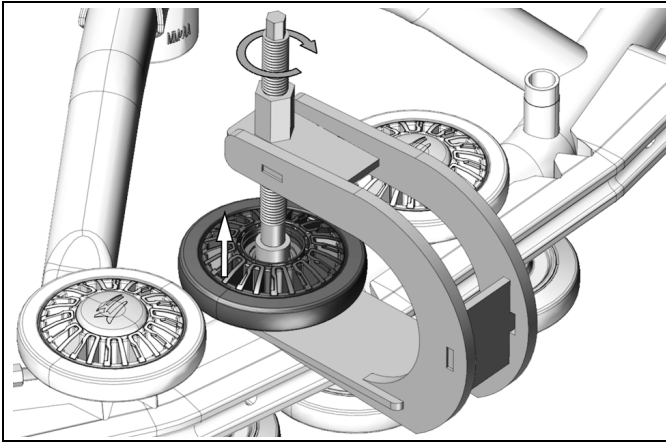

Figure 32
- Place the extractor under the wheel as shown on Figure 32. Then turn the threaded rod to remove the wheel